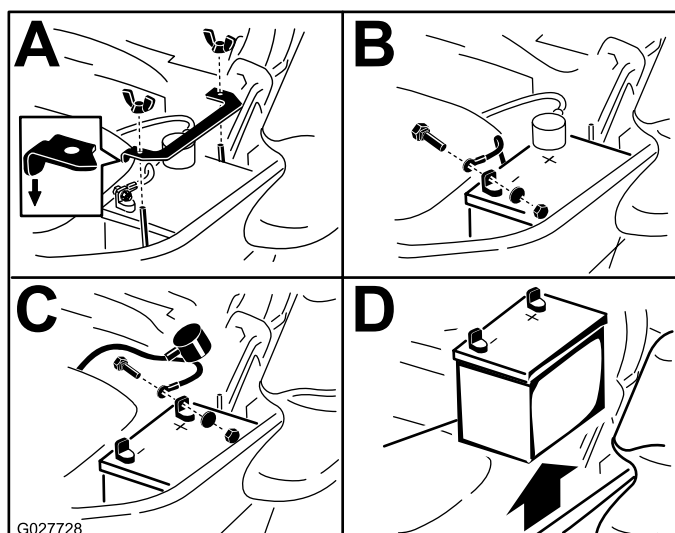

Figure 60
3. Disconnect the negative battery cable (black) from the negative (-) battery terminal (Figure 60).
4. Slide the red terminal boot off the positive (red) battery terminal, and remove the positive (+) battery cable (Figure 60).
5. Remove the wing nut securing the battery clamp (Figure 60).
6. Remove the clamp (Figure 60).
1. Position the battery in the tray with the terminal posts opposite from the hydraulic tank (Figure 60).
4. Secure the cables with 2 bolts, 2 washers, and 2 locknuts (Figure 60).
6. Install the clamp and secure it with the wing nut (Figure 60).